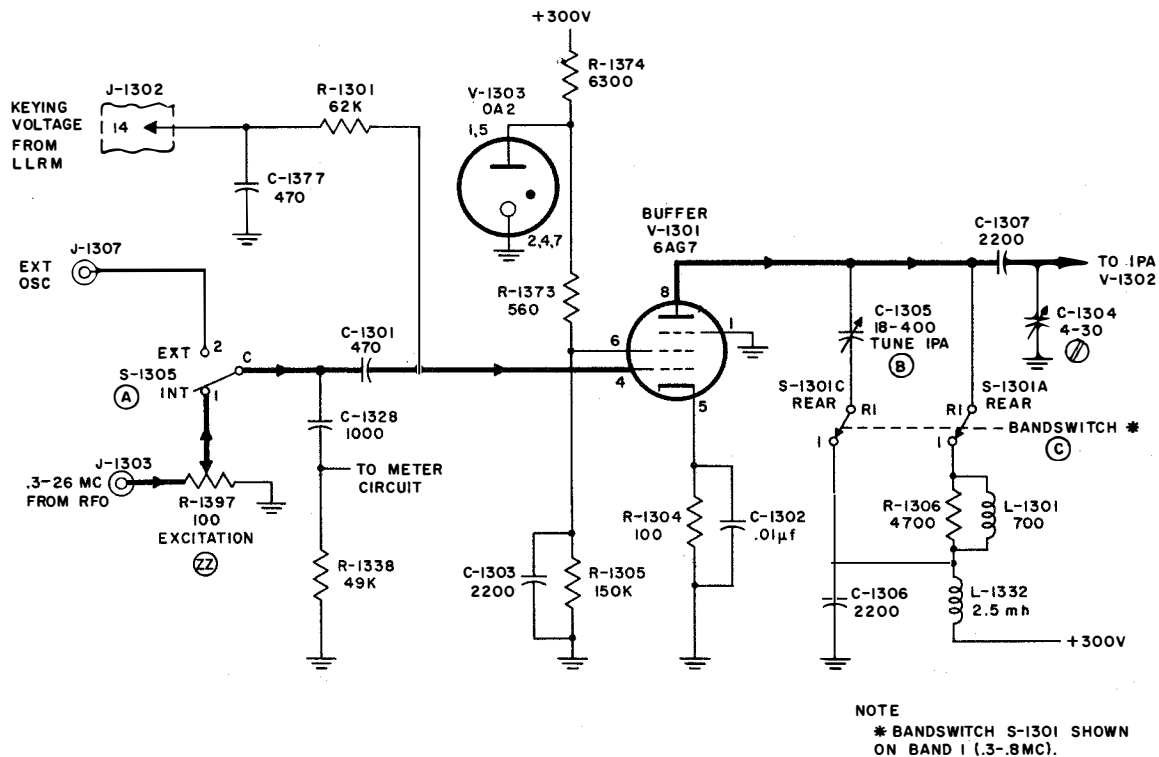

Figure 2-96. Buffer V-1301, Simplified Schematic
b. BUFFER V-1301.—Buffer V-1301 (figure 2-96) is a class A amplifier that amplifies the r-f output of the RFO and isolates the RFO from possible variations in buffer load impedance resulting from on-off keying of the buffer. During c-w and phone operations, the buffer and hence the carrier are keyed on and off by keying voltages from the LLRM. The buffer is keyed off during space in cw, and is keyed on during mark in cw or when the microphone press-to-talk button is depressed in phone operation. The buffer is always on in FSK and facsimile operations.
(1) BUFFER INPUT.—The output of the RFO is terminated by the EXCITATION control Ⓣ R-1397, which is a 100-ohm potentiometer to match the impedance of the coaxial cable carrying the r-f signal from the RFO to the RFA so that a uniform signal strength is presented to the RFA regardless of the length of this line. The amplitude of r-f signal coupled to the grid of the buffer, V-1301, through capacitor C-1301 and through the INT-OSC-EXT switch ⓐ, S-1305, in the INT. position, is determined by the setting of the Ⓣ control, which should be such that the value is neither in excess of five volts rms nor is such that when all tuning is completed, the value of PA screen grid current does not exceed 70 ma (see paragraph 10d).
(2) BUFFER TANK CIRCUIT.—The buffer amplifies the r-f signal and tunes it in the plate tank circuit (figures 2-96 and 2-97). The components of the tank are determined by the bandswitch setting. The switches, S-1301A rear, S-1301A front, and S-1301C rear, select the buffer tank components. These switches are ganged together and are manually controlled by the BANDSWITCH control ⓐ. Figures 2-96 and 2-97 show the setting for band 1. The frequency range of each band is given in paragraph 10f.
(3) BUFFER KEYING.—During FSK or FAX operation, the buffer control grid (figure 2-96) is maintained at a constant potential of zero volts and its screen grid at a constant potential of approximately +150 volts, thereby keeping the buffer amplifying and the carrier continuously on the air. The zero voltage on the control grid is directly applied from the LLRM, through isolating resistor R-1301, with capacitor C-1377 acting as an r-f bypass. The screen potential is supplied from the regulated +150 volts supplied by the action of the voltage regulator tube, V-1303, in series with resistor R-1403, forming a voltage divider across the +300-volt supply. Resistor R-1305 and capacitor C-1303 form an r-f filter to further stabilize the buffer screen supply, and resistor R-1402 acts as a suppressor. In c-w operation during mark and in phone operation when the press-to-talk button is depressed, the above conditions also prevail and the buffer amplifies. However, in c-w operation during space and in phone operation when the press-to-talk button is not depressed, -30 volts is received from the LLRM through isolating resistor R-1301 and is applied to the control grid of the buffer. This -30 volts is sufficient to drive the buffer well below cutoff so that any r-f signal from the RFO will not be amplified, which effectively cuts the carrier off the air. The origin of the zero and -30-volt keying voltage is explained in the keying circuit discussion in the LLRM (paragraph 7c(7)).